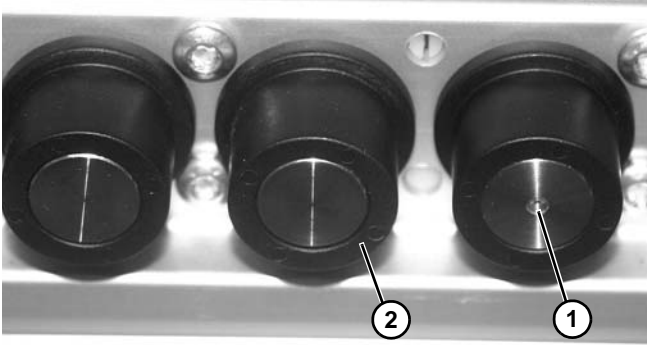

Figure 17
Keep strict attention to roller type. To differentiate and correctly install the two different style rollers: Driven rollers have a dot (Figure 17, item 1) in the center, and slip rollers (Figure 17, item 2) do not.